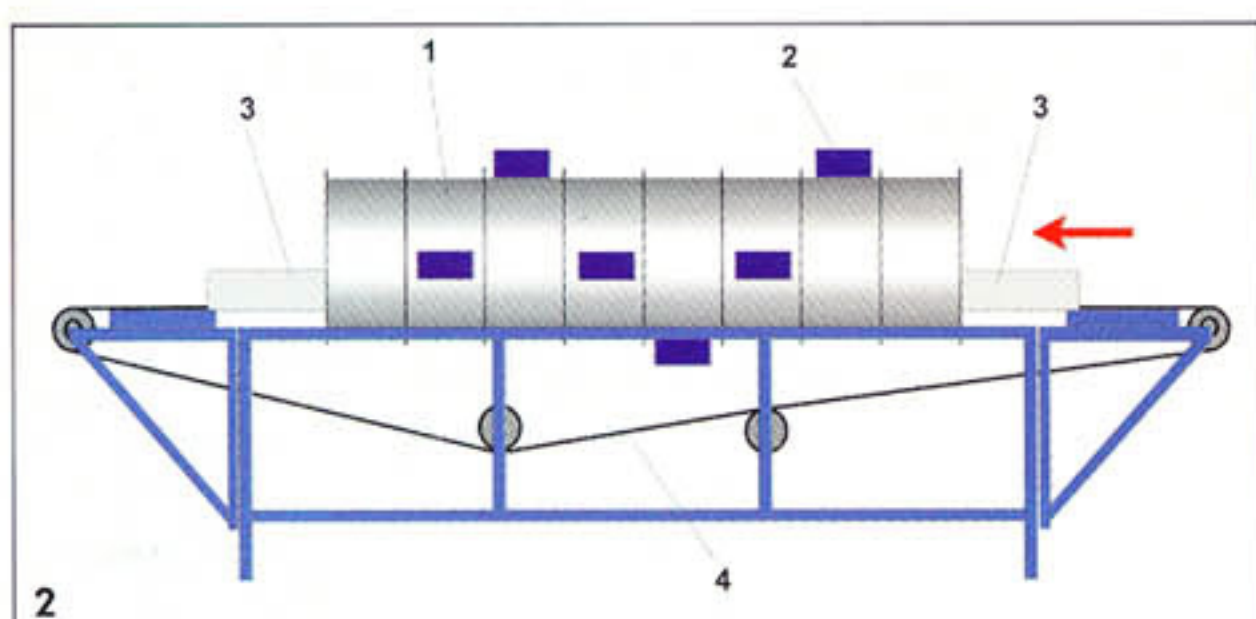

Fig. 2
The basic part of every microwave dryer is the microwave chamber (1). In Fig. 2, the microwave chamber is